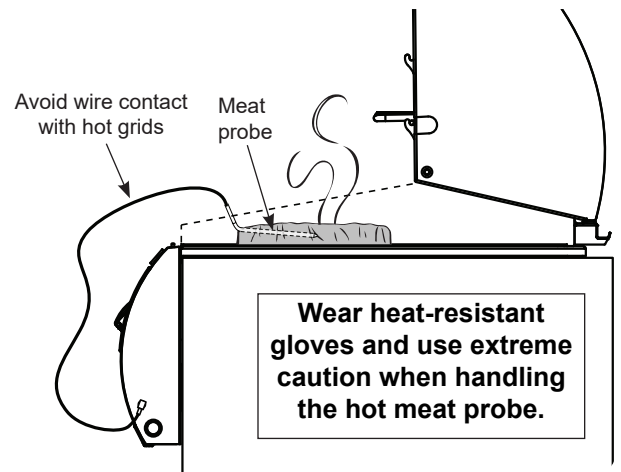

Fig. 35-3 Meat probe
- Meat probe wire is rated up to 800°F and cannot withstand continuous contact with flame. Avoid wire contact with hot cooking grids. See Fig. 35-3. If wire shows visible damage, meat probe needs to be replaced.